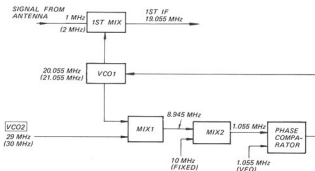
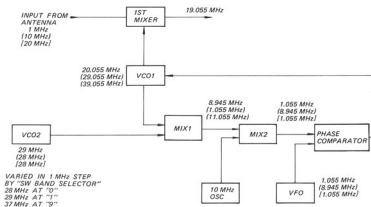

Fig. 5
Fig. 7
- 1) Fig. 5 is a block diagram showing the principle of the PLL circuit employed in this set. Let us consider this block diagram.
When the two signals are mixed by the mixer 2, a 1.055 MHz signal ($10 - 8.945 = 1.055$ MHz) is produced as the output of the mixer 2, and is then fed to the phase comparator. Meanwhile, a separate signal from an oscillator is also fed to the phase comparator as shown in Fig. 5 [Hereinafter, this oscillator will be referred to as the VFO.]
With a PLL circuitry as shown in Fig. 5, it is the stability of the three oscillators, VCO2, the 10 MHz fixed oscillator, and the VFO, that determine the overall stability of the PLL. By using a crystal oscillator for the 10 MHz fixed oscillator, ample stability can be obtained. As for the VFO, since its oscillator frequency is not so very high, stable oscillation can be obtained even with an L-C oscillator. Therefore, VCO2 determines the ultimate stability of the PLL.
Fig. 7 is essentially the block diagram shown in Fig. 5 to which the frequencies of each of the sections are indicated when receiving 1 MHz, 10 MHz, and 20 MHz signals.
The following frequencies are fed out from the output of the mixer 2 when receiving a 10 MHz signal as indicated in Fig. 7.
The frequency of VCO1 is controlled by first comparing the signals by the phase comparator, obtaining the difference in the form of a voltage difference, and feeding this differential to the variable capacitance diode of VCO1. As shown in Fig. 7, whether it is a 1 MHz, 10 MHz, or 20 MHz signal that is being received, the frequency that is fed to the phase comparator is always 1.055 MHz. This would make it seem that VCO1 will constantly be oscillating at the same frequency, however, the oscillator circuit of VCO1 is switched by means of a switch for 1 MHz level signals, 10 MHz level signals, and 20 MHz level signals, and so it never oscillates at the same frequency.